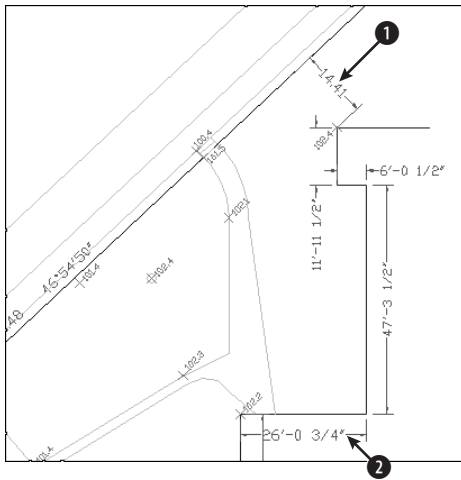

Figure 14-36: A dimensioned civil engineering drawing
2. Save the file as `ab14-09.dwg` in your AutoCAD Bible folder. This is a civil engineering drawing whose dimensions need some editing. It is shown in Figure 14-36. If the Dimension toolbar isn't visible, right-click any toolbar and check Dimension.
3.  The dimension at ❶ in Figure 14-36 is not in the proper units because the text was entered explicitly as 14.41. To correct this error, choose Dimension Edit from the Dimension toolbar. At the `Enter type of dimension editing [Home/New/Rotate/Oblique] <Home>` prompt, right-click and choose `New`. The Multiline Text Editor opens, showing the angle brackets. Because you want the original text, click `OK`. At the `Select objects:` prompt, pick ❶. Press `Enter` to end object selection. (You could correct several dimensions this way.) AutoCAD corrects the dimension, automatically creating the text in the current units.
-  The dimension text at ❷ in Figure 14-36 is too close to the dimension line of the vertical dimension that crosses it. Choose Dimension Text Edit from the Dimension toolbar. At the Select dimension: prompt, pick ❷. At the Specify new location for dimension text or [Left/Right/Center/Home/Angle]: prompt, right-click and choose Right. AutoCAD moves the text to the right.